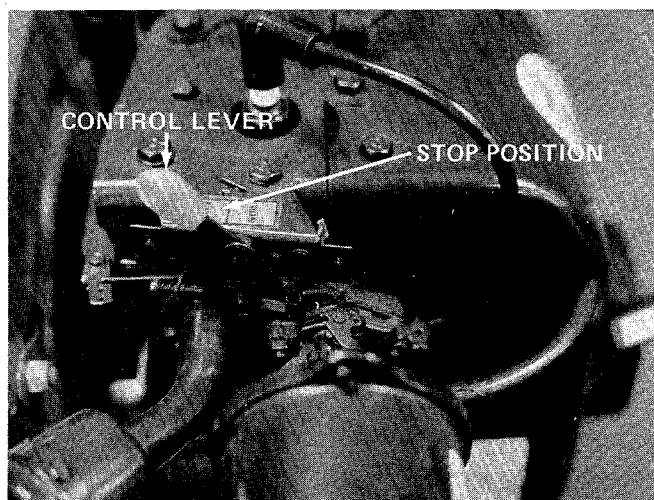

FIGURE 8
1. Move control lever to "STOP" position. See figure 8.